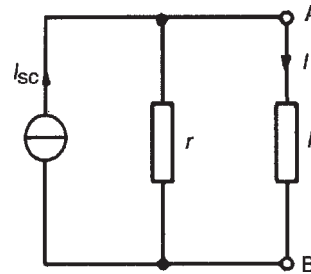

Figure 15.53
Note the symbol for an ideal current source (from BS EN 60617-2: 1996, which superseded BS 3939-2: 1985), shown in Fig. 15.53.
- (iv) determine the current I flowing in resistance R from the Norton equivalent network shown in Fig. 15.53, i.e.